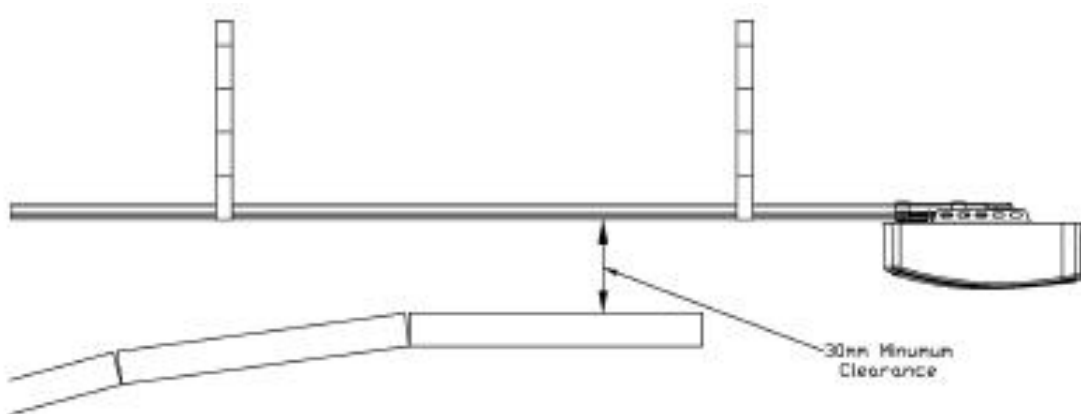

Figure 1
5. There should be a minimum gap of 30mm between the bottom of the chain drive rail and the top of the garage door at its closest point. (refer to Fig 1.)